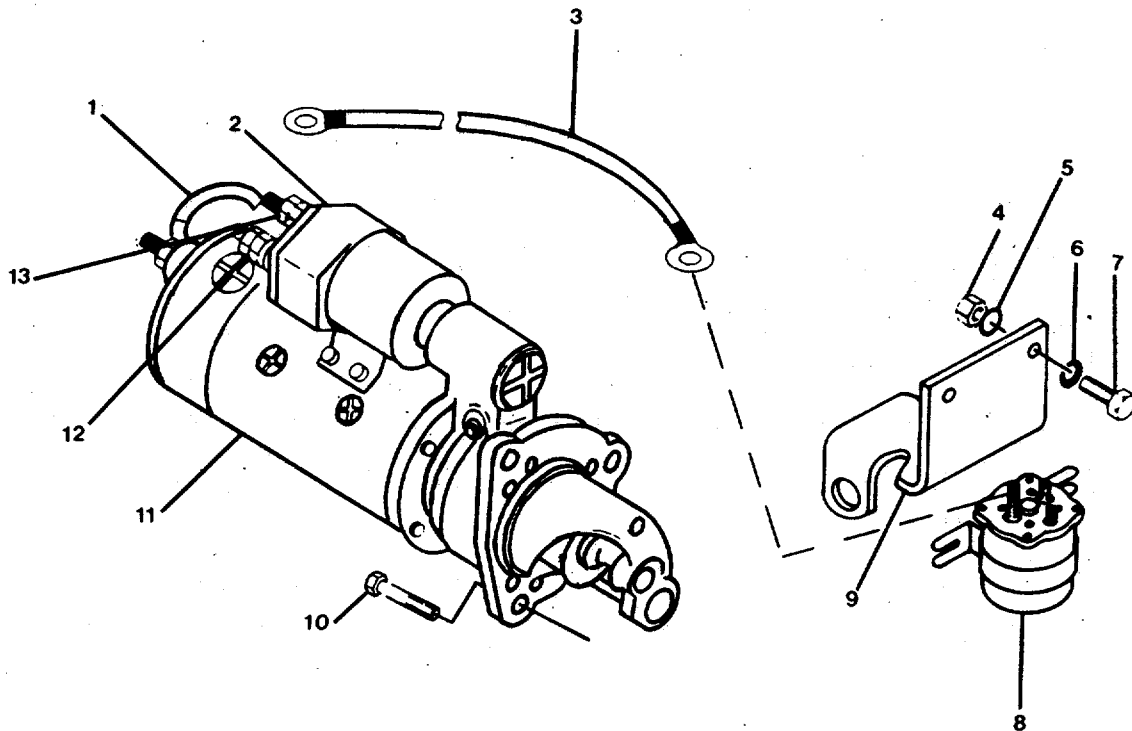

FIGURE 2-11. Electric Starter and Magnetic Switch.
**2-21. Replace/Repair Electric Starter Motor and Magnetic Switch Group. (FIGURE 2-11)**